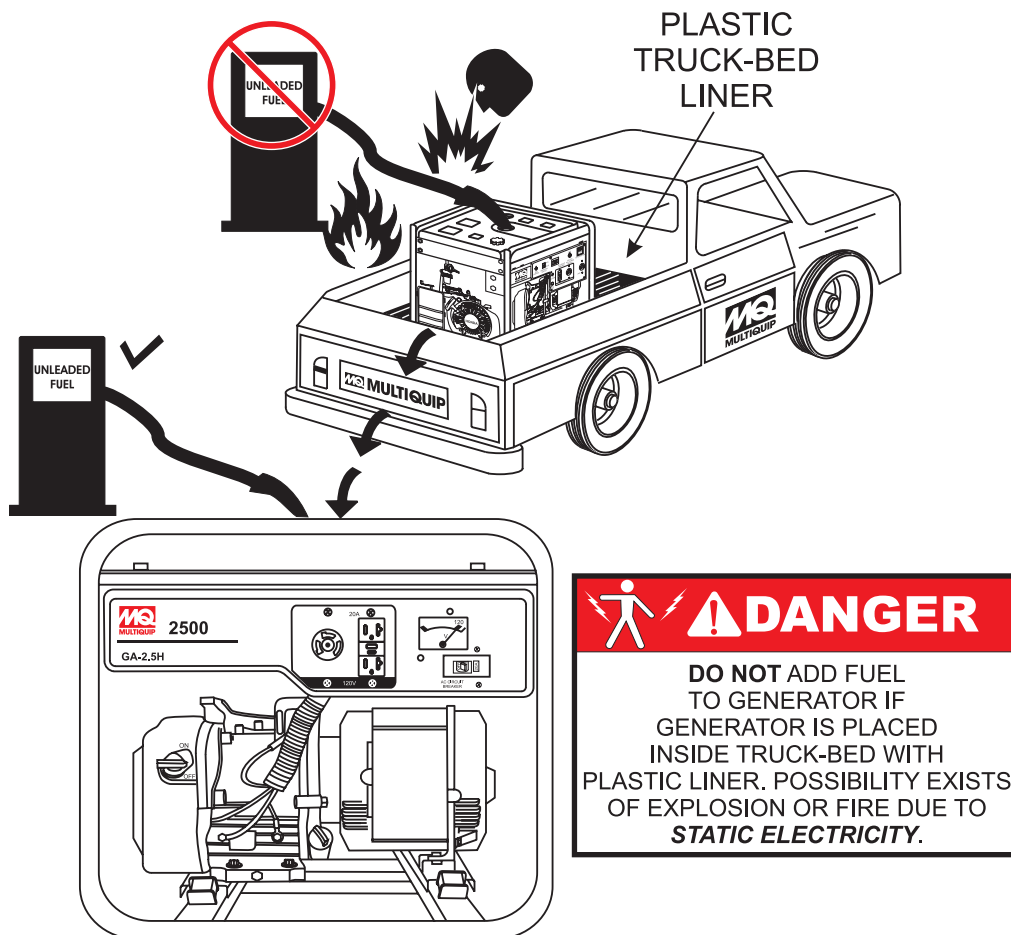

Figure 3. Generator Refueling
Adding fuel to the tank should be done only when the engine is stopped and has had an opportunity to cool down. In the event of a fuel spill, **DO NOT** attempt to start the engine until the fuel residue has been completely wiped up, and the area surrounding the engine is dry. If generator is placed in a truck bed with a plastic liner, **REMOVE** generator from truck bed and place on ground (Figure 3) to refuel. This possibility exist of **fire** or **explosion** due to static electricity.
2. When grounding the generator (Figure 3) connect the ground cable between the lock washer and the nut on the generator and tighten the nut fully. Connect the other end of the ground cable to earth ground.